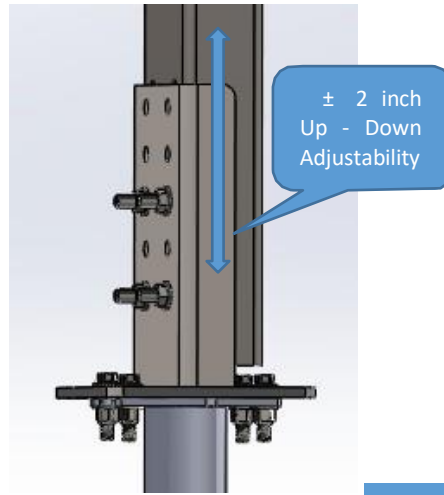

Fig. 7-1
- Foot Bracket Up – Down: ± 2 inches (51 mm) (Fig.7-1)